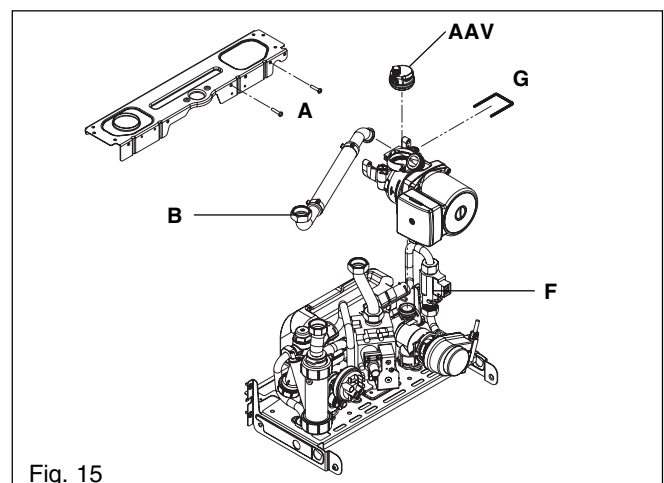

Fig. 15
### 6.5 PUMP ASSEMBLY fig. 15
- refer to fig. 15 and remove items A & B
### 6.6 AUTOMATIC AIR RELEASE VALVE fig. 15 (AAV)